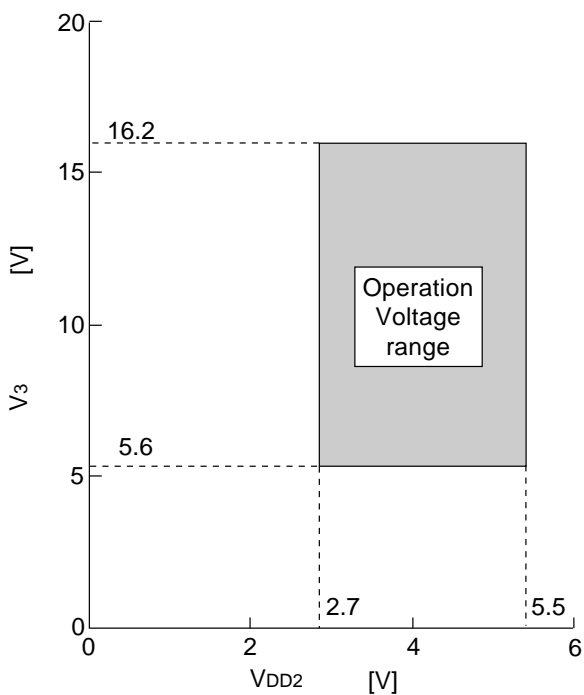

Fig. 9.4
- \*2. For VDD2 and V3 system operating voltage range, see Fig. 9.4.